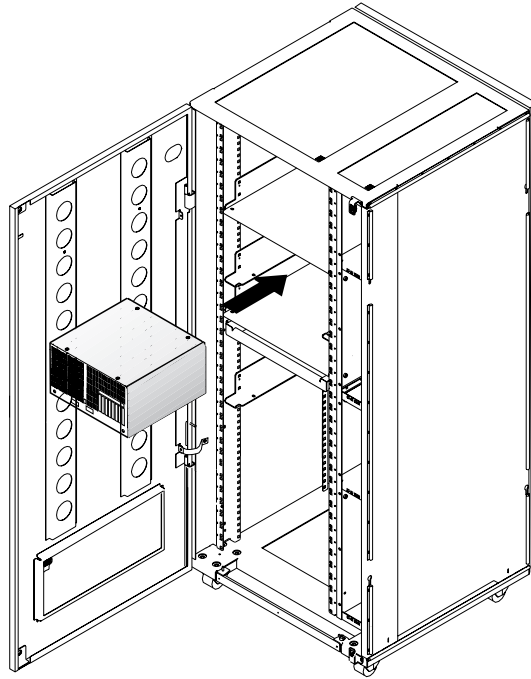

Figure 1-38. Installing the Service Processor Unit in the Controller Expansion (Rear Side)
16. ____ If installed, remove the four pads located under the unit, then slide the service processor unit on the brackets as shown in Figure 1-38.